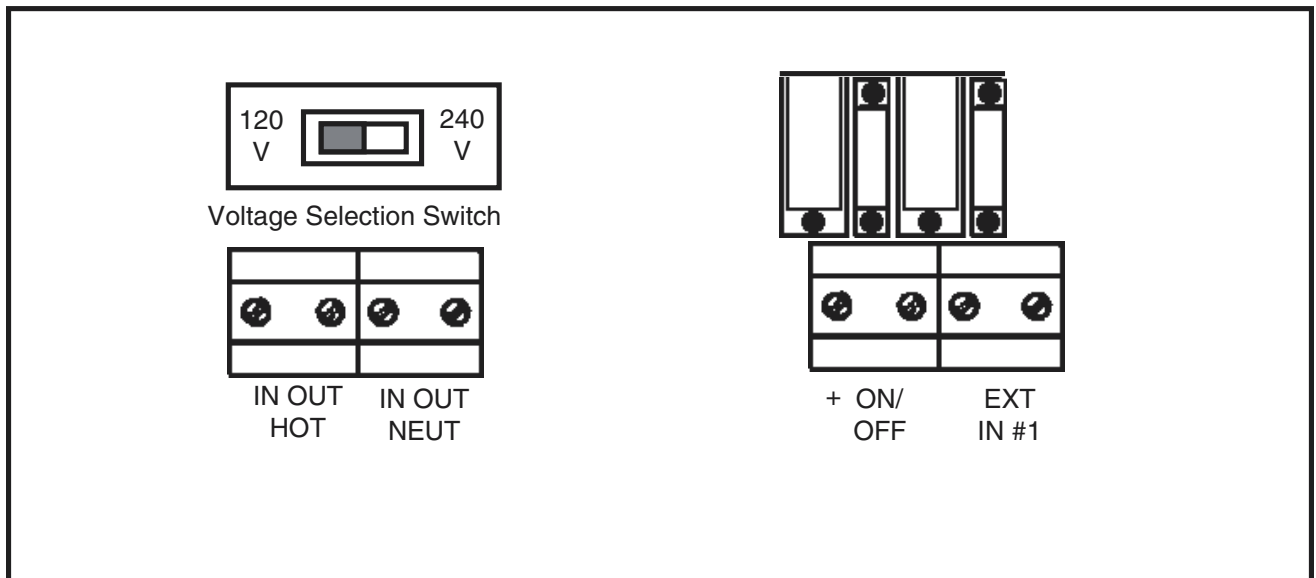

Figure 14
- Switch Position (See Figure 14)
- Incoming Voltage (hot) (See Figure 14)
- Incoming Neutral (See Figure 14)
2.5.3 ON/OFF (See Figure 14)